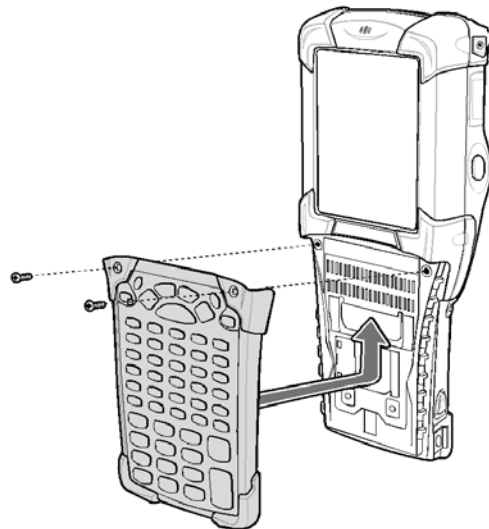

Figure 3-2 Installing the Keypad
- Replace the keypad and re-attach using the two screws (see Figure 3-2 on page 25).